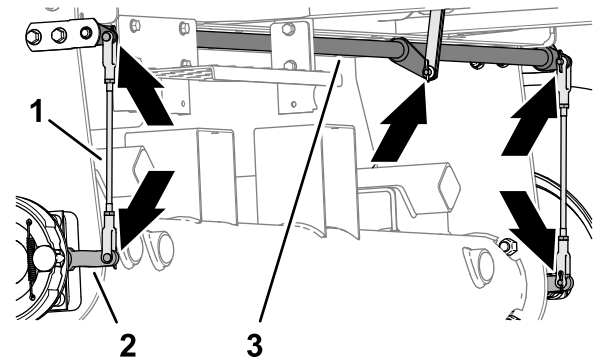

Figure 70
1. Inspect the left and right brake-rod assemblies (Figure 70) for damage and wear.
2. Inspect the brake pivot shaft (Figure 70) for damage and wear.